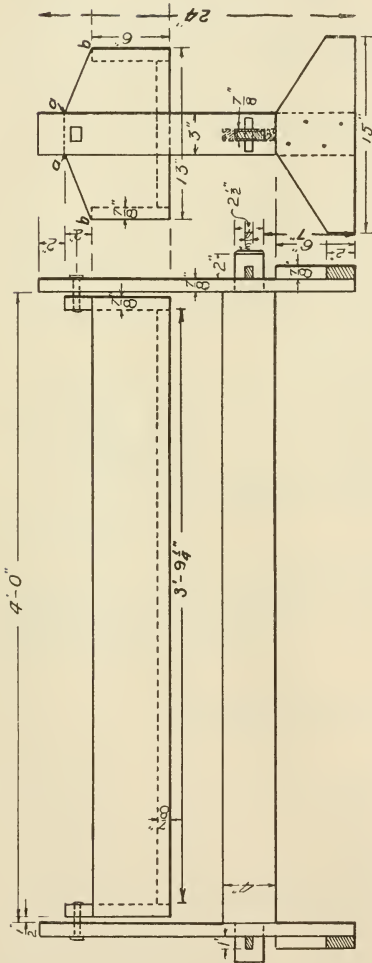

FIG. 47. — WORKING DRAWING OF SHEEP-
1. Laying off width and length. — Lay off the width of the bottom 11 1/4" and length 3' 9 1/4". Lay off the sides 6" wide and 3' 11" long. Lay out the ends 8" wide and 13" long; 2" from one edge of the ends, gauge a line from end to end; find the middle of the length and on the same edge lay off the middle line; 1 1/2" on each side mark *a*, *a*, and draw lines to *b*, *b* on the ends (Fig. 47).